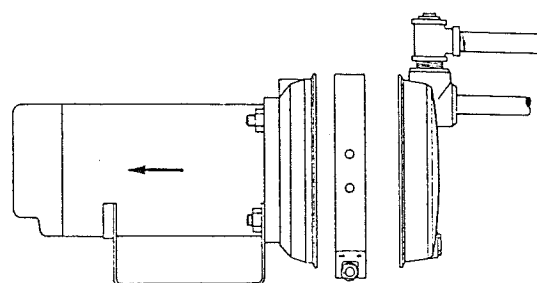

Figure 20—Slide Motor Back
Pump and piping need not be disconnected to repair or replace motor or seal (see Figure 20). If motor is replaced, replace the shaft seal (Key No. 7, Page 12). Keep one on hand for future use.
2. Remove clamp (see Figure 20).
3. Remove pump base mounting bolts. Motor assembly and back half of pump can now be pulled away from pump front half (Figure 20). CAREFULLY remove O-ring.